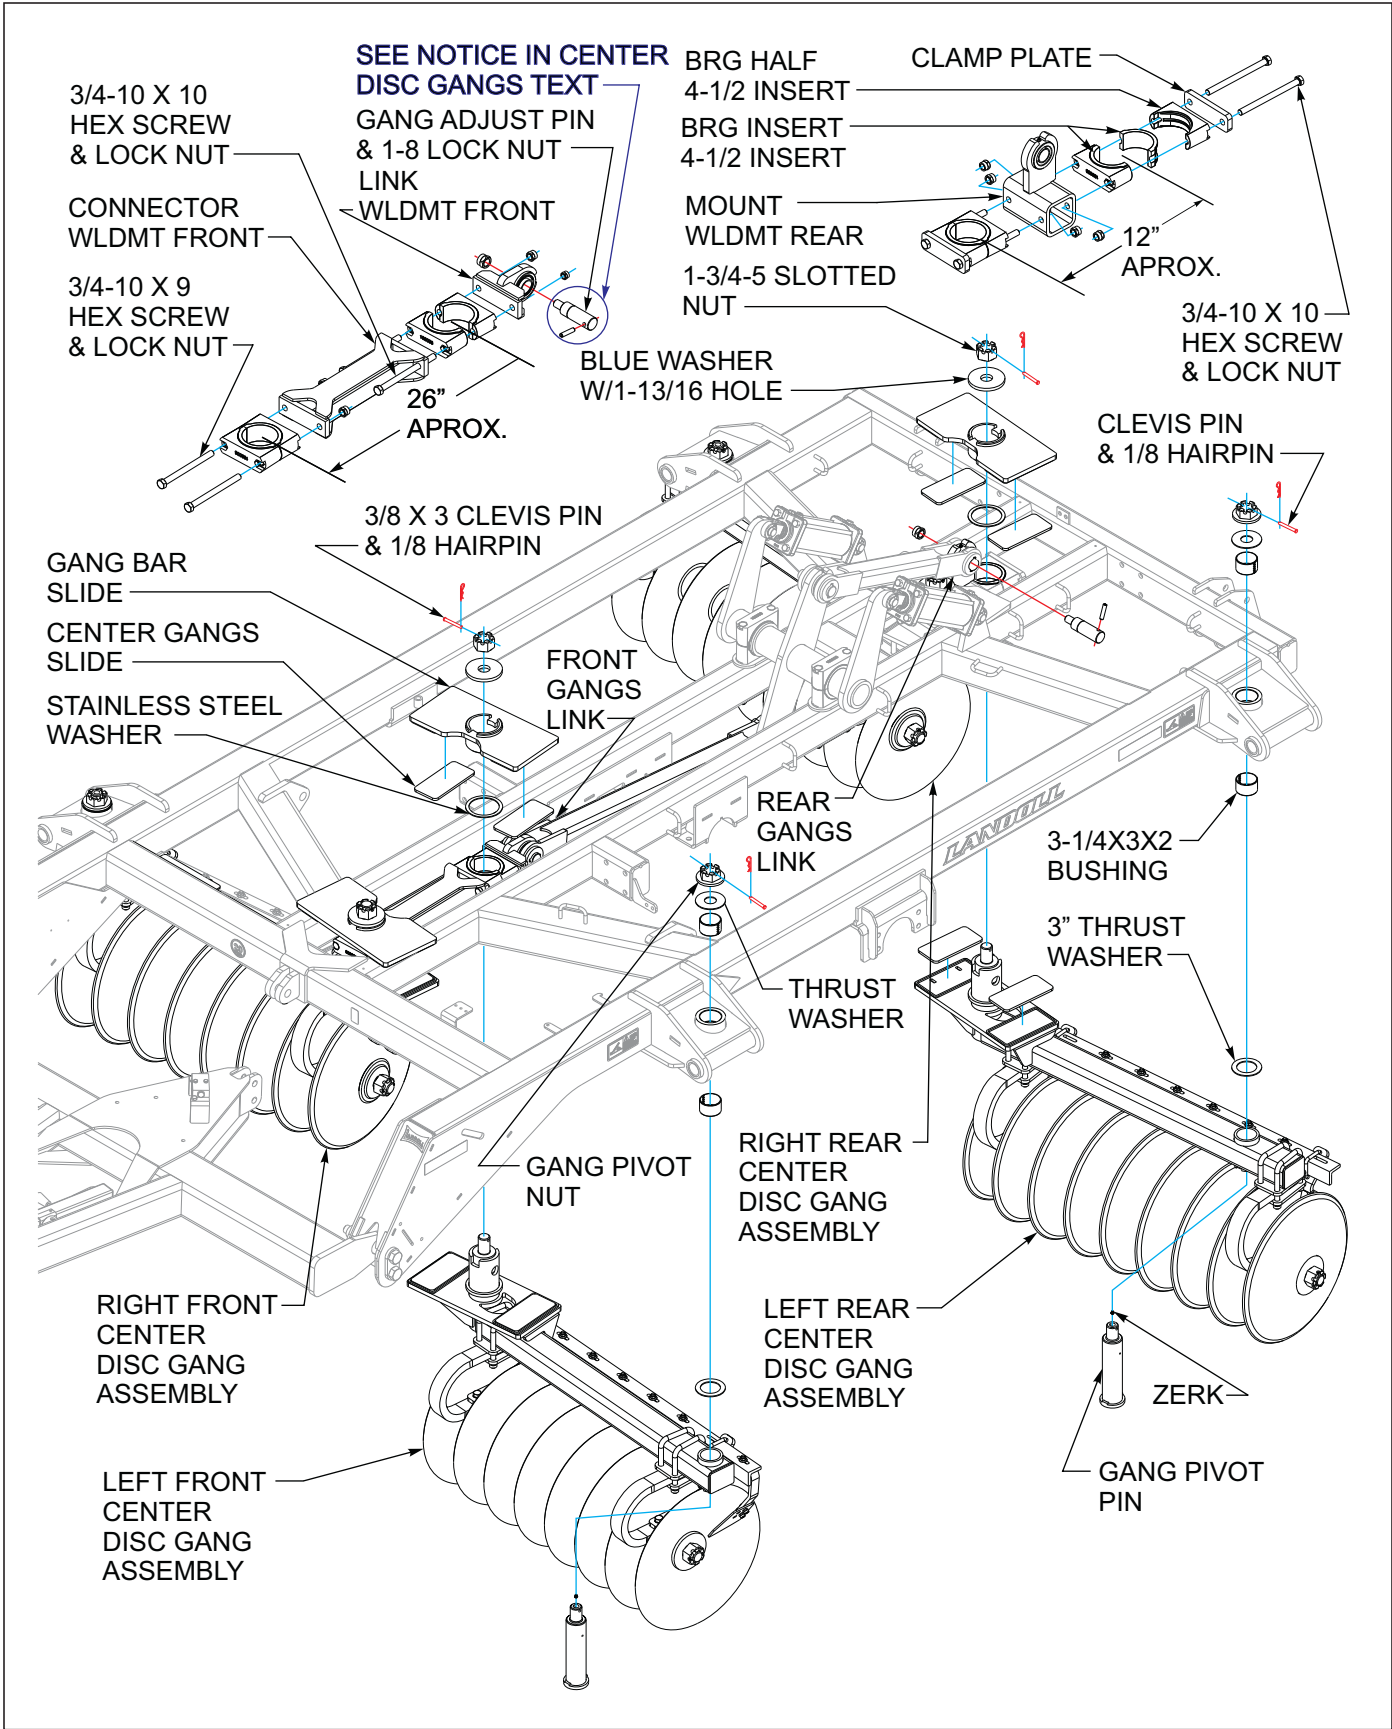

Figure 3-22: Center Disc Gang Installation
1. Install the left front disc gang assembly by moving disc gang assembly to proper frame position (**See Figures 3-22.**) Install gang pivot pin through gang pivot tube of gangbar, there are notches that will need to be aligned so the pin will not rotate in the gang bar. Install the 3" stainless steel thrust washer over the gang pivot pin, and pin will go on through the gang pivot mount welded to the outside of the center frame inside the hinges. Install the 1-13/16 diameter thrust stainless steel washer to the threaded end of the gang pivot pin along with the gang pivot nut. If the top bushing in the center frame pivot comes out a little while the pin is going through, just put the gang pivot nut on and hand tighten down to press it back into place. While gang pivot nut is still loose place both of the center frame slide pads onto the top side of the gang bar inside of the holder at the center of the machine. Next loosely install the gangbar slide and the center frame slide pads along with the blue washer with a 1-13/16" diameter hole and 1-3/4" slotted nut in the middle of the center frame to keep the end of the gang from falling.
4. The front gangs have a distance of 26" from center to center of the gangbar pivot shafts sticking up, move gangs to where this is close and the gangs are close to the front of the machine as shown in (**See Figures 3-22.**) Assemble the front bearing halves and insert the 3/4-10 x 9" bolts through the front connector. Assemble the rear bearing halves and insert the 3/4-10 x 10" bolts through the connector and into front link weldment that is already on the frame assembly. Tighten these four bolts alternating sides to tighten the cast bearings up evenly. With both bearings tight install a stainless steel washer on top of the bearing inserts and reinstall the gang bar slides, center frame slide pads, blue washers with 1-13/16" diameter hole and slotted nuts.